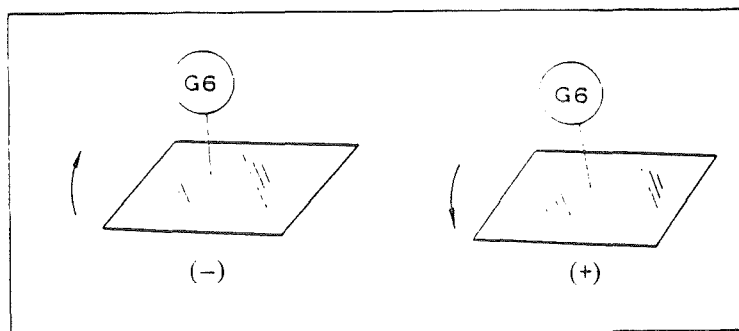

Fig. 37
- 1) If in 2-5, 3), the level difference is found over 0.5mm, raise or lower  $\textcircled{G6}$  in the direction of the arrow, as shown in Fig. 37.